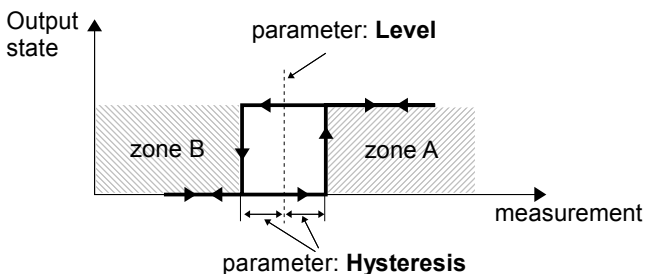
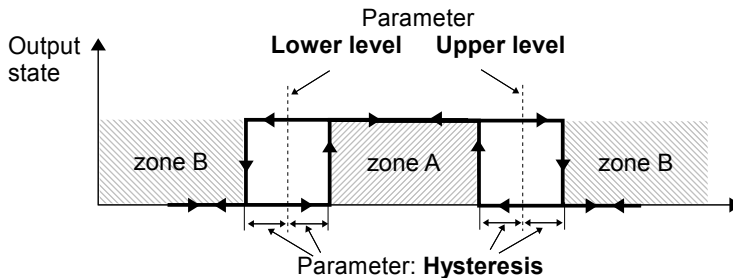
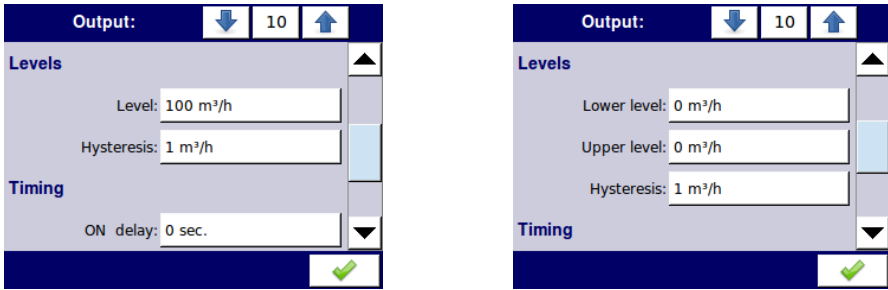

Fig. 7.66. One threshold control of the relay outputs
Fig. 7.67. Two threshold control of the relay outputs
Fig. 7.68. **Levels** settings for above level mode (left) and inside range (right)
- **Mode** - this parameter allows the user to select the method of operation of the output, **Mode** parameter has options (see Fig. 7.66 and Fig. 7.67):
Levels parameter block (see Fig. 7.66, Fig. 7.67 and Fig. 7.68)